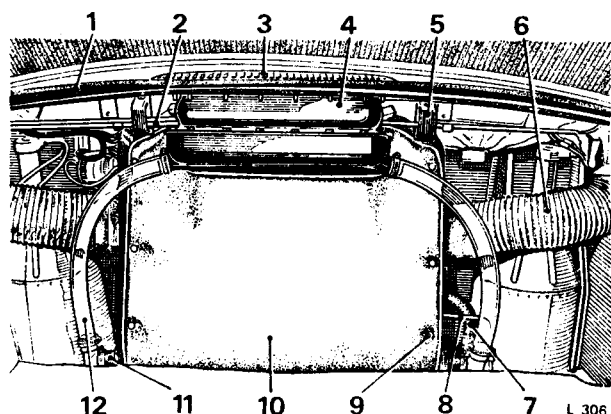

FIG. C35 POSITION OF THE EVAPORATOR BOX ASSEMBLY
Evaporator box assembly—To remove (*see Fig. C35*)
4. Slacken the worm drive clips securing the upper ends of the transparent drain tubes to the evaporator box rear cover; detach both drain tubes from the cover (see Fig. C35).